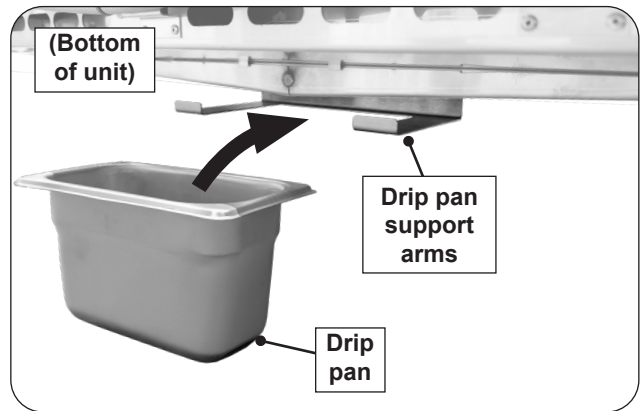

Fig. 32-1 Install drip pan
1. Through the required enclosure front access door, locate the drip pan support arms located underneath the grill firebox (see Fig. 32-1).